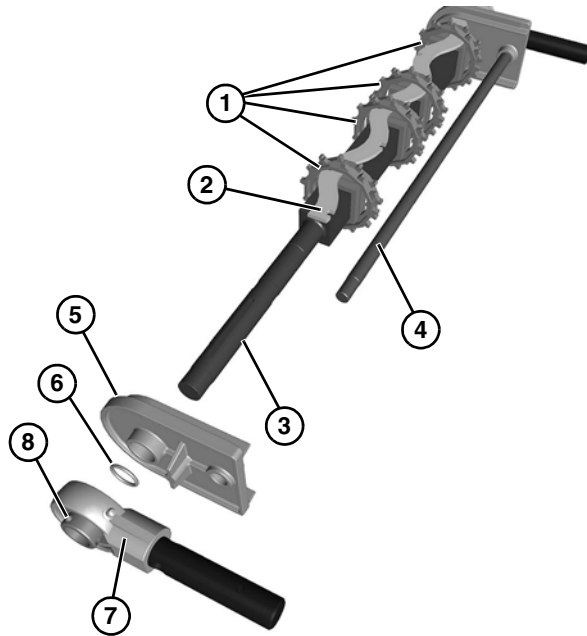

Figure 69
1. Assemble sprockets (**Figure 69, item 1**) to the slots of alignment bar (**Figure 69, item 2**), and install assembly onto drive spindle (**Figure 69, item 3**).
2. Install pinch guard shaft (**Figure 69, item 4**).
3. Slide the tracking plate (**Figure 69, item 5**) onto the drive spindle and pinch guard shaft.
*When installing tracking plate, be certain O-ring (**Figure 69, item 6**) is installed.*
4. Slide the shaft assembly (**Figure 69, item 7**) onto the drive spindle and tighten set screws (**Figure 69, item 8**) on bearing.